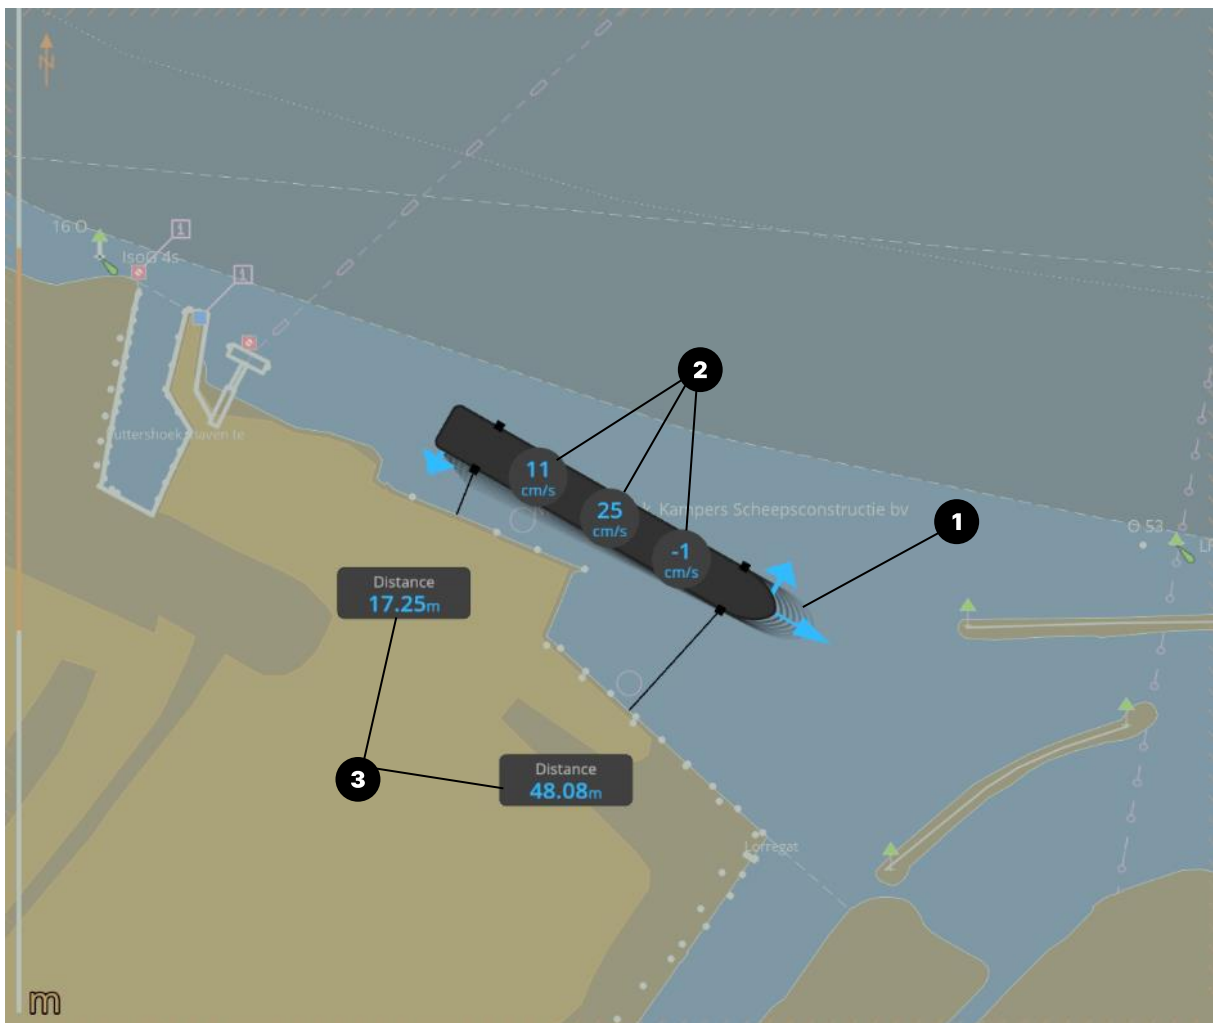
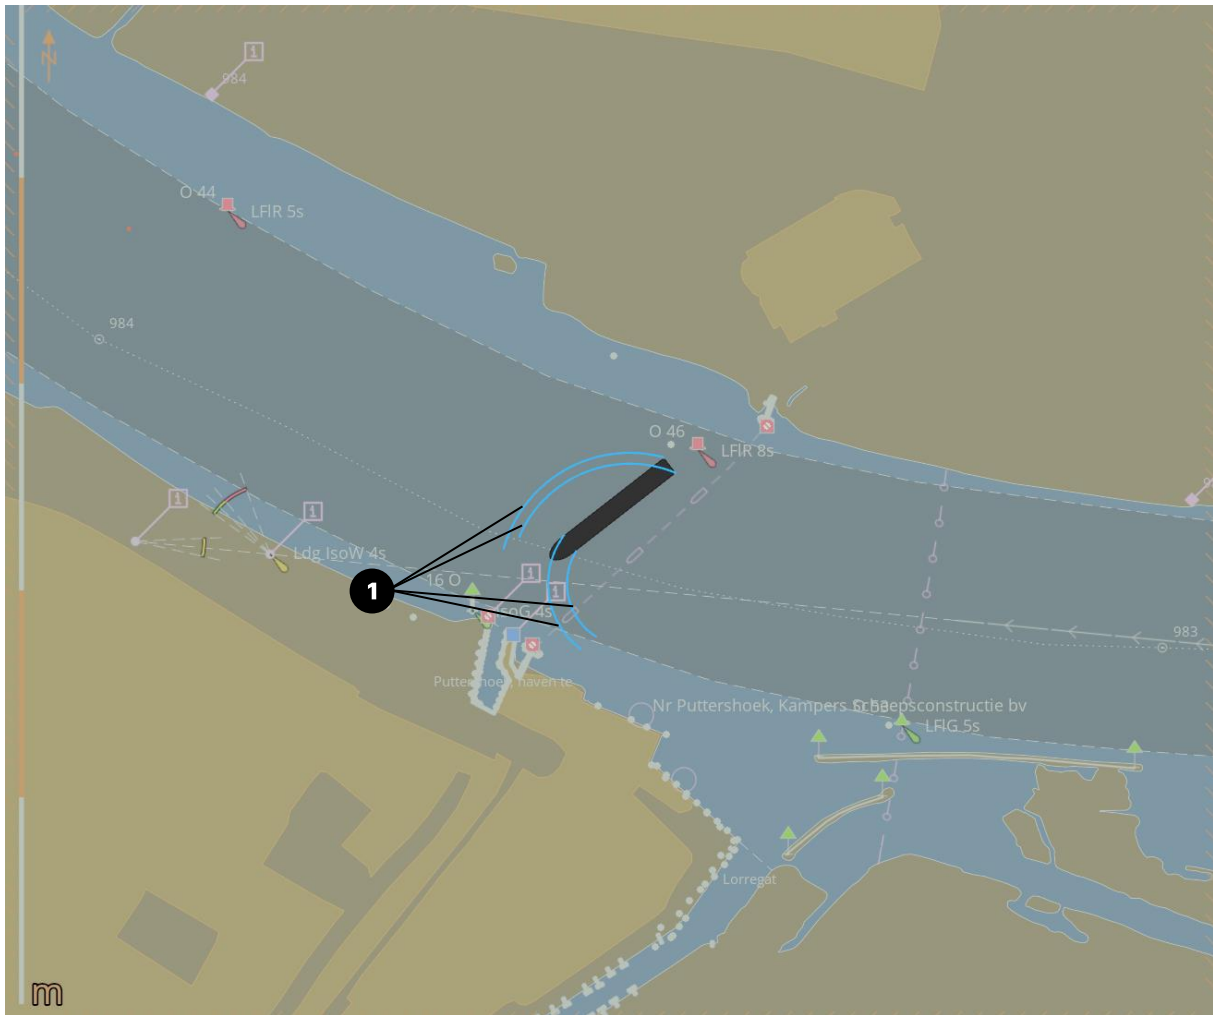
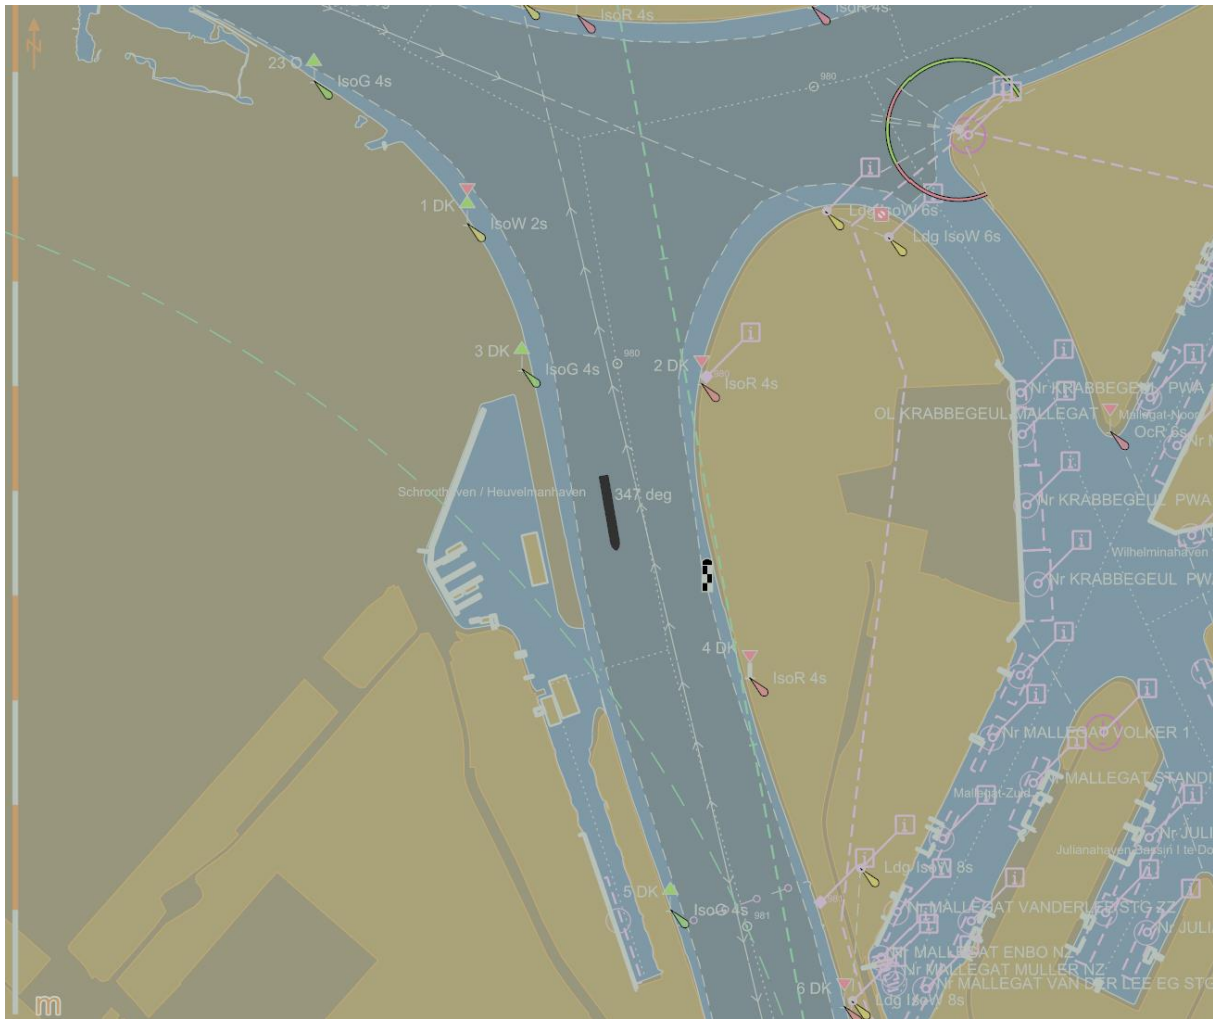

Figure 7: AlphaMINDS Docking application > Main area > Docking mode example
Figure 9: AlphaMINDS Docking application > Main area > Harbor mode example
Figure 10: AlphaMINDS Docking application > Main area > Voyage mode example with no layers
- **Position prediction vessels;** a layer that shows one or more scale models of the vessel at a predicted position. It can be used during Docking to see if the vessel is properly steered and aligned. It can also be used during turns for obstacle avoidance. See Figure 7 for an example.
- **Position prediction lines;** a layer that shows four lines (one from each 'corner' of the vessel) to indicate the predicted vessel position. It can be used in Harbor conditions to see if the vessel is properly steered and aligned. See Figure 9 for an example.
- **Speed information;** a layer that shows speed info on top of the vessel. It is typically used during Docking or Lock Approach to see if the vessel is properly controlled. See Figure 7 for an example.
- **Distance information;** a layer that shows the distance from vessels' hull to the quay (or other objects in the chart) as reference into the current chart will also be presented. See Figure 7 as an example.
NOTE: Figure 7, Figure 9, and Figure 10 show Automatic mode in the top bar (as selected by the user), however a specific mode is selected by the system. This can be recognized by the scale of the chart and visibility of the layers.
Figure 7 shows the following layers: (1) Position prediction vessel, (2) Speed information, and (3) Distance information.
Figure 9 shows the following layer: (1) Position prediction lines.
Figure 10 shows no layers.
<p>LAYERS - POSITION PREDICTION</p> 	<p>Show Vessel (i.e. one or more scale models of the vessel at a predicted position):</p> <ul style="list-style-type: none"> - Auto (position prediction vessel will be shown when in Docking mode (see Figure 7 on page 37)) - On - Off <p>Show Lines (i.e. two lines that show the predicted vessel position):</p> <ul style="list-style-type: none"> - Auto (position prediction lines will be shown when in Harbor mode (see Figure 9 on page 39)) - On - Off <p>NOTE: Visualization can be altered (refer to chapter 'Settings').</p>
<p>LAYERS – SPEED INFO</p> 	<p>Show Speed:</p> <ul style="list-style-type: none"> - Auto (speed info will be shown (on the vessel) when in Docking mode (see Figure 7 on page 37) or Lock Approach mode) - On - Off
<p>LAYERS – DISTANCE INFO</p> 	<p>Show Distance:</p> <ul style="list-style-type: none"> - Auto (distance info will be shown (on the chart) when in Docking mode (see Figure 7 on page 37) or Lock Approach mode) - On - Off